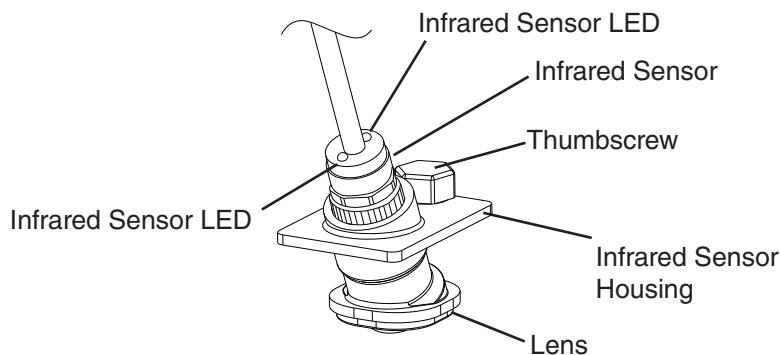

Fig. 6
- 8) CB "GM" and "COMP" LEDs are on. Use an object to cover BC sensor lens at the bottom of the icemaker. If the bottom of the icemaker is not accessible in your application, remove the thumbscrew securing BC housing, remove BC from the base, then cover BC sensor. See Fig. 6. BC yellow LED turns on (flashing or steady). BC yellow LED flashes when ice is at the outer limit of its range and turns steady as ice nears. After BC yellow LED turns on (flashing or steady), BC shutdown delay timer starts. See "III.C.b) Bin Control Shutdown Delay (infrared sensor) (S1 dip switch 1, 2, 3)." Comp should de-energize immediately after BC shutdown delay timer terminates. 5 min. later, GM and FM/FMR de-energize. **Diagnosis:** If BC yellow LED is not on after covering the BC sensor, replace BC. If unit remains on after BC shutdown delay timer terminates and the 5-minute ice purge timer terminates, replace CB.